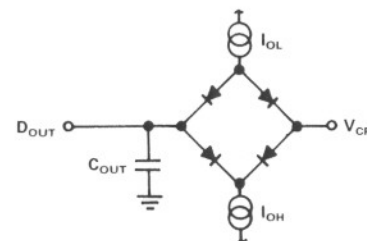

Figure 4. Load Circuit for Bus Timing Specifications
- ²Measured from the falling edge of OE/EOCEN (0.8 V) to the time at which the data lines/EOC cross 2.0 V or 0.8 V. See Figure 4; $C_{OUT} = 100\text{ pF}$.
- ³Measured from the rising edge of OE/EOCEN (2.0 V) to the time at which the output voltage changes by 0.5 V. See Figure 4; $C_{OUT} = 10\text{ pF}$.